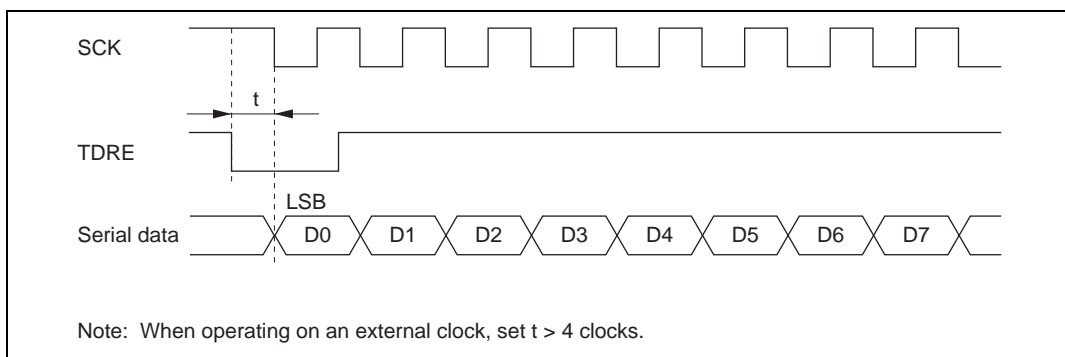

Figure 14.22 Example of Synchronous Transmission Using DTC
- When an external clock source is used as the serial clock, the transmit clock should not be input until at least 5 ϕ clock cycles after TDR is updated by the DMAC* or DTC. Misoperation may occur if the transmit clock is input within 4 ϕ clocks after TDR is updated. (Figure 14.22)